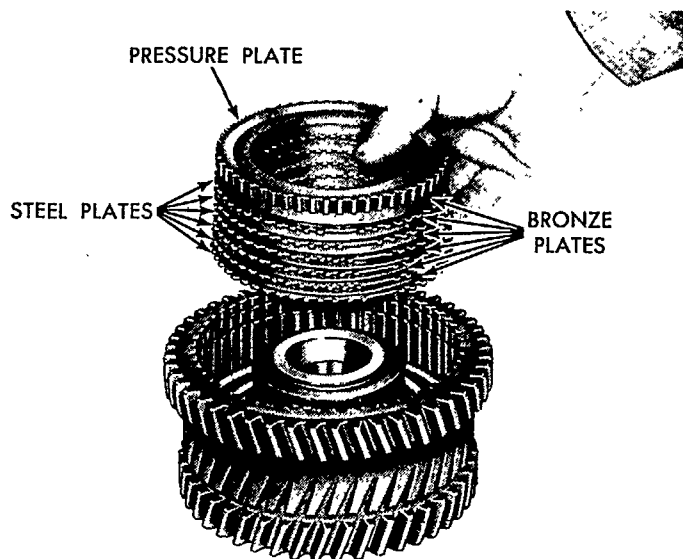

Figure 106
2. Remove the pressure plate and bronze and steel plates from the clutch housing, shown in Figure 106.